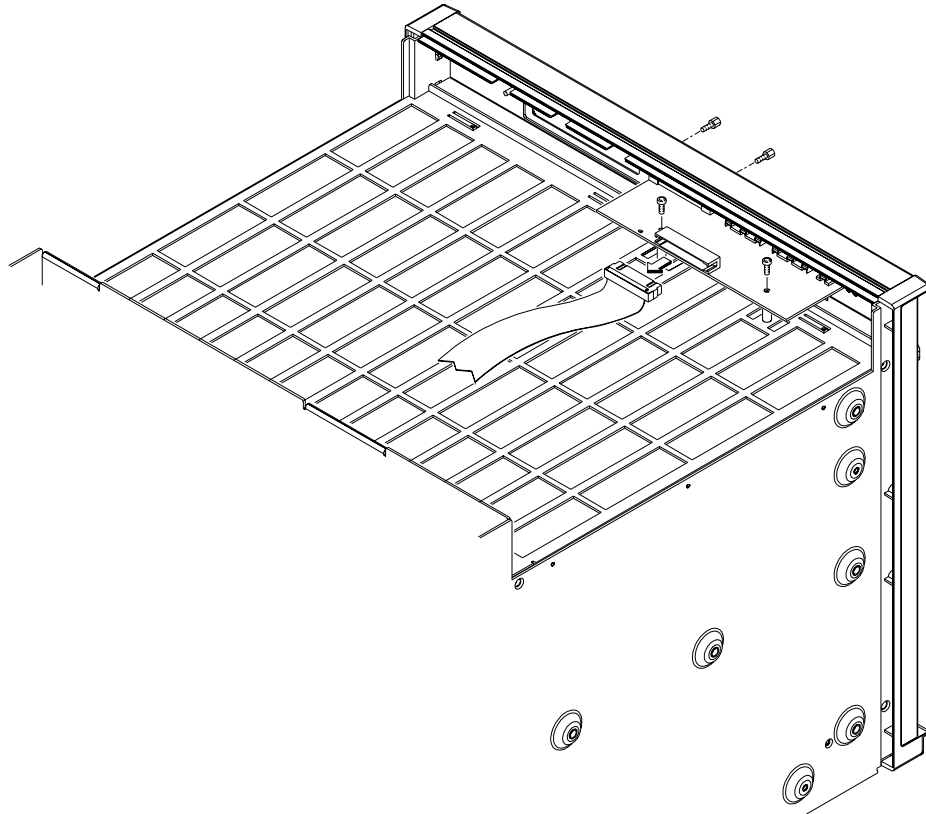

Figure 3-3. Removing the Basic Monitor Board.
3. Remove the mainframe cover by removing the ten m3x6 flat head torx screws (five on each side of the mainframe). Refer to Figure 3-3.